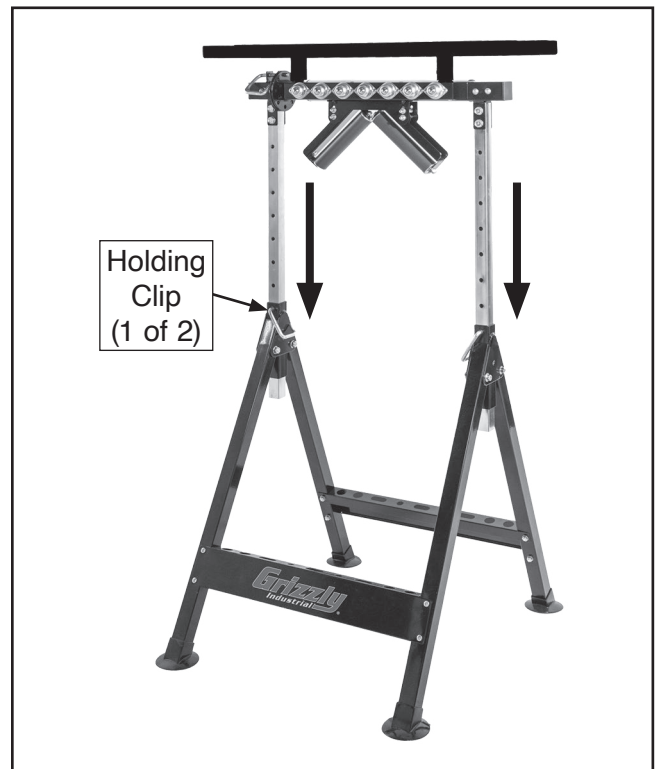

Figure 9. Multi-function head installed on stand legs.
7. Slide extension bars into stand legs (see **Figure 9**).
8. Adjust head to required height, ensuring extension bar and stand locking holes are aligned. Insert holding clips through holes to secure, with clip handles facing inward (as shown in **Figure 9**).